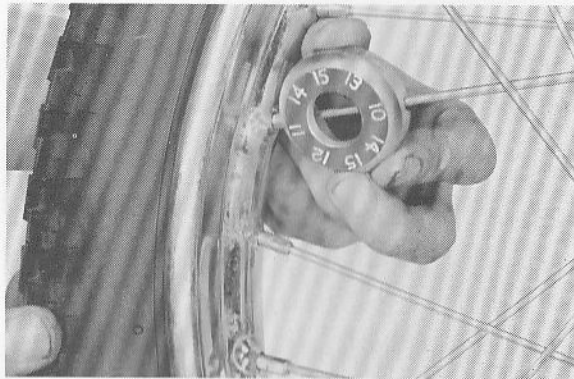

Fig. 2-6-5
- b. Check each spoke for tightness. (Fig. 2-6-5)
- b. Vérifier le serrage de chaque rayon. (Fig. 2-6-5)